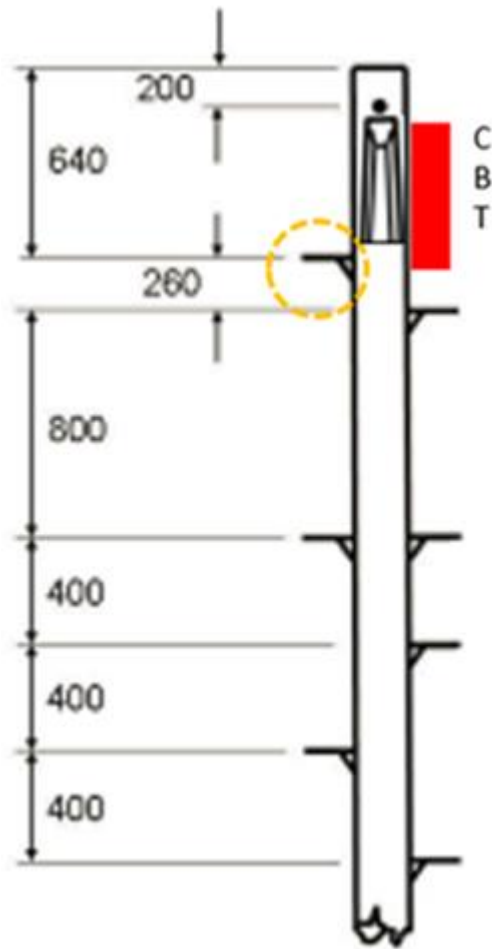

Figure 1 – Typical standard stepping arrangement
- The coach screws and upper Bass Step are removed from existing position (see figure 1)